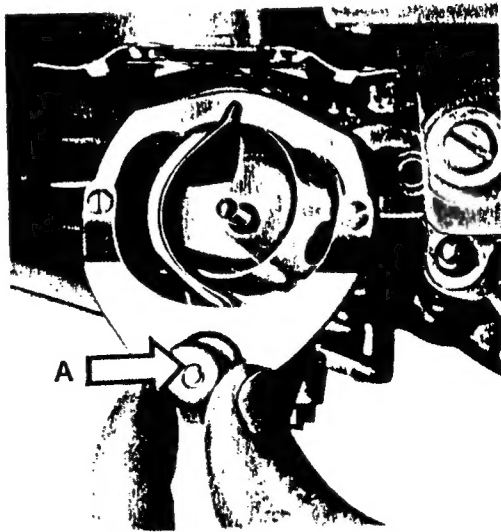

Fig. 18A
3. Unscrew the knob A, as shown in Fig. 18A.